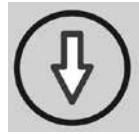

Figure 9 Moving downwards.
- Move the chair downwards by pressing the button that shows a 'down' arrow. The seat of the Elexo XXL will move downwards simultaneously (See figure 9).